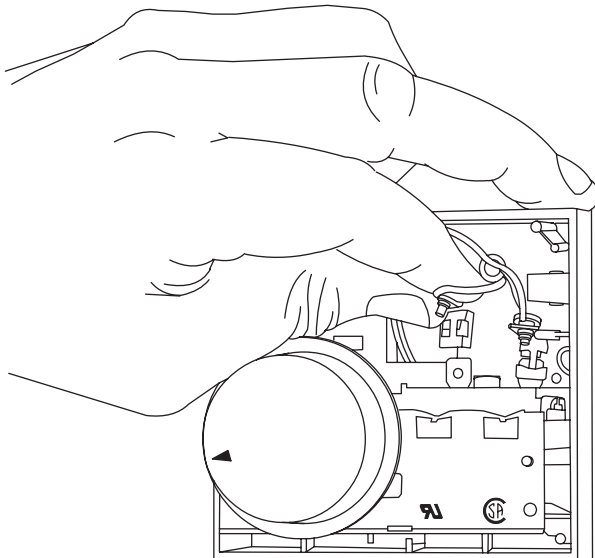

Fig. 3 — Dehumidistat Terminal Connections
6. Connect wiring to the terminals on the mounting plate of the dehumidistat. Two spade connector are provided in the dehumidistat for wiring connections. See Fig. 3.